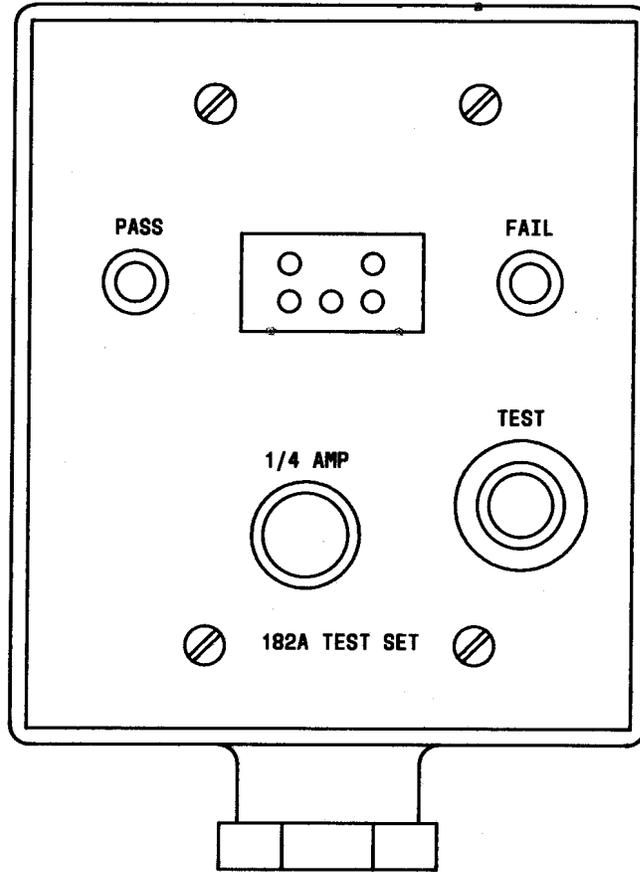
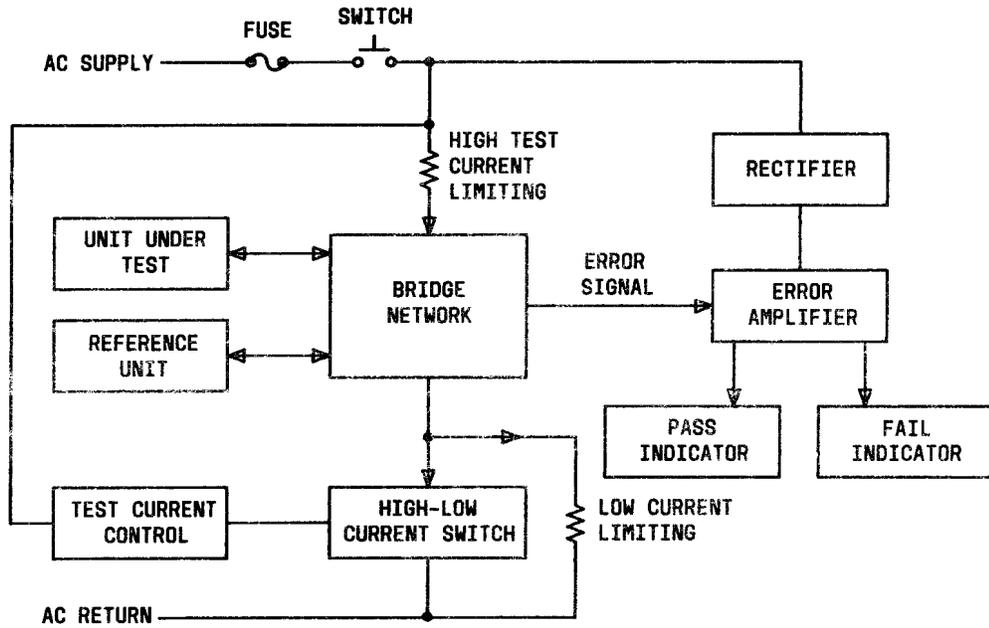

Fig. 4—182A Test Set
Fig. 5—182A Test Set Block Diagram
1.06 The 182A test set is housed in a conduit box for wall mounting (Fig. 4). A block diagram of the 182A test set is shown in Fig. 5.